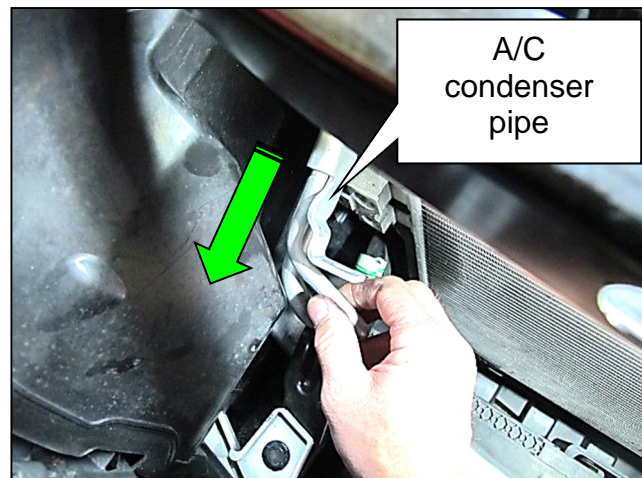

Figure 16
14. Disconnect the A/C condenser pipe from the A/C condenser (Figure 16).